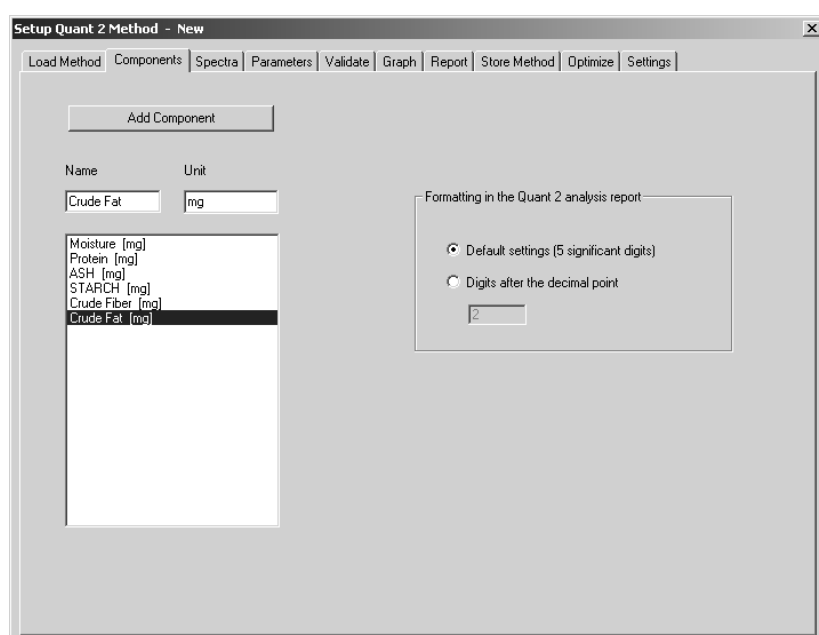

Figure 122: Entering Component Names
- Select in the *Evaluate* menu the *Setup Quant 2 Method* function and click in the *Setup Quant 2 Method* window on the *Components* tab. Enter the names of your components. See figure 122.